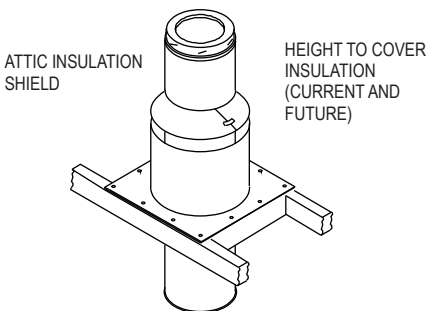

Figure 13
8. Install Attic Insulation Shield: The Attic Insulation Shield is required where an unenclosed chimney passes into an unoccupied space. Its purpose is to prevent current and future combustibles (debris, non-approved insulation, etc.) from getting too close to the chimney (**Fig.13**). An installed Attic Insulation Shield must be high enough to cover current or future insulation. In unoccupied areas where this shield cannot fit, you must enclose the chimney in a framed enclosure. If the chimney is fully enclosed through the unoccupied space, an Attic Insulation Shield is not required. If the installation requires the Attic Insulation Shield, follow the below guidance:
B5. Secure the Attic Insulation Shield to the top of the framed opening using at least (3) 8-penny nails or (3) #8, 1-1/2" wood screws per side (**Fig.13**).